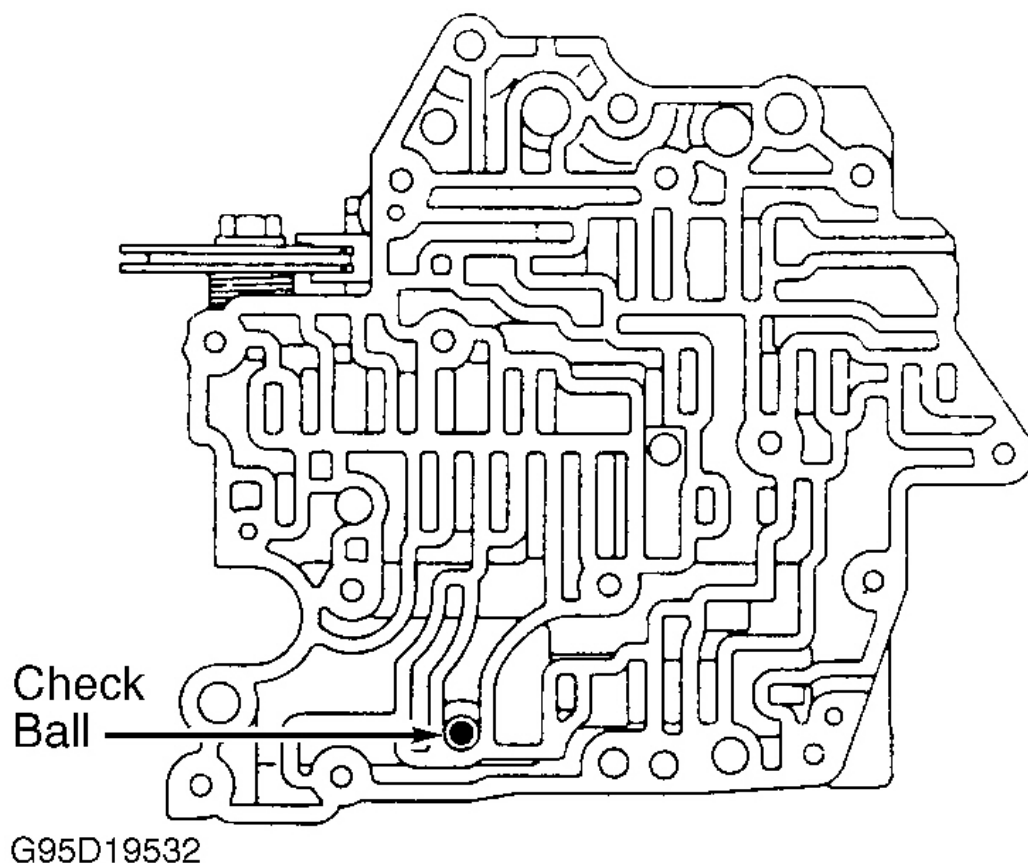
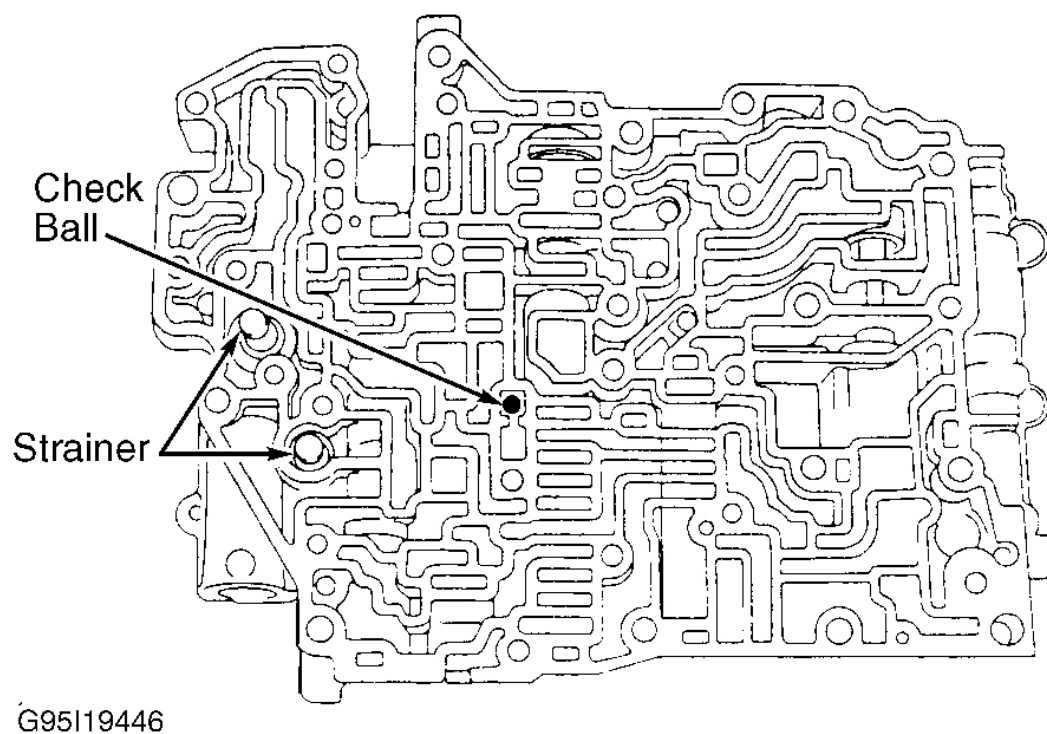

Fig. 45: Locating A-541E Upper Valve Body Check Balls
Fig. 46: Locating A-541E Lower Valve Body (Top) Check Balls
1. Install check ball and vibrating stopper to upper valve body. See **Fig. 45** . Install oil strainers and check ball to lower valve body (top). See **Fig. 46** . Position No. 1 gasket against upper valve body. See **Fig. 48** . Place separator plate and No. 2 gasket on No. 1 gasket.